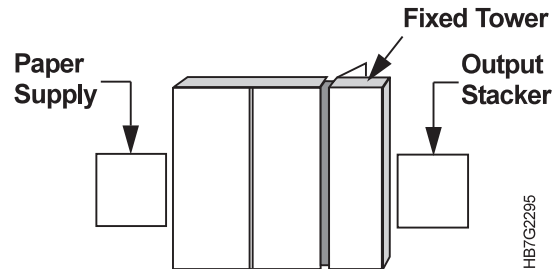

Figure 230. Right Side View of the InfoColor 70
- 1 Close all doors except the fixed-tower door on the left side of the machine, as shown in Figure 230.